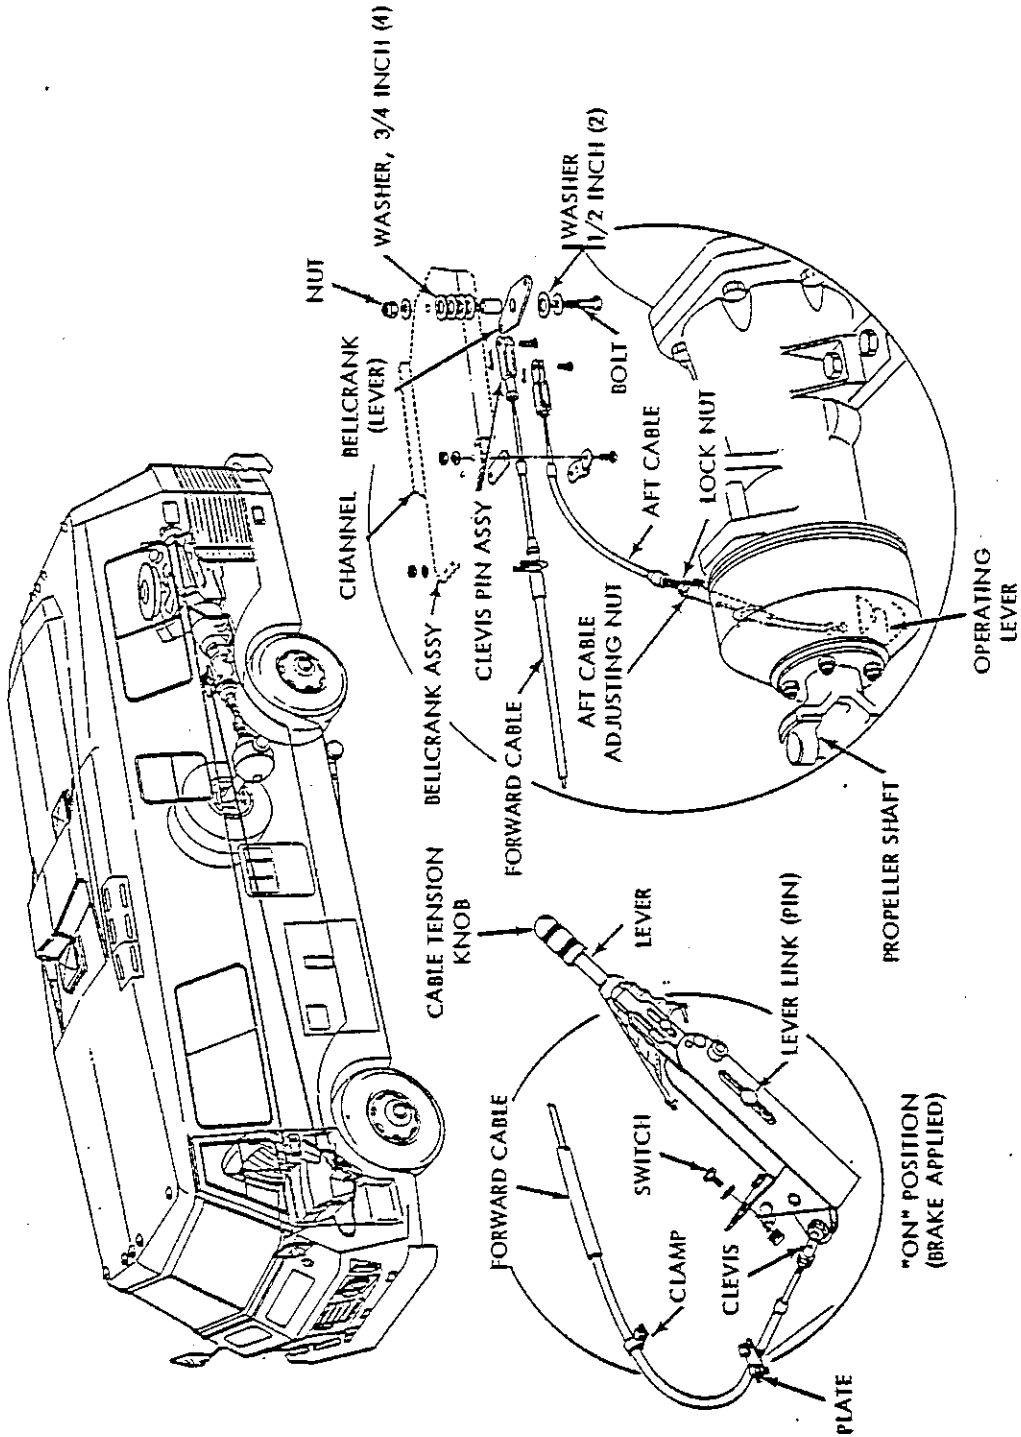

Figure 10-1. Parking Brake
10-1. DESCRIPTION (fig. 10-1)
(1) Check, and adjust, bellcrank end play of lever attaching bolt and nut; refer to step k.
(2) Install bellcrank on chassis bracket using two bolts, washers, and lockwashers.
(3) Attach each cable clevis to bellcrank with pin and cotter pin. Check that clevis locknuts are tight.
(4) On inboard side of bellcrank assembly, secure small aft cable with two bolts, washers, and lockwashers.
(5) On outboard side of bellcrank assembly, secure large forward cable U-bolt with two nuts and lockwashers.
(6) Test parking brake; refer to paragraph 10-5e.
f. Forward Cable Removal (fig. 10-1).
(1) Check that parking brake hand lever is fully forward ("off"), and that lever adjustment knob is turned fully counterclockwise to release all cable tension.
(2) Remove four screws under carpet, then remove lever access plate.
(3) Remove nut, lockwasher, washer, and bolt from lower end of hand-operated brake lever; disconnect forward cable assembly.
(4) Remove two screws and lockwashers; remove forward cable retaining plate.
(5) Remove or loosen each support clamp self-tapping screws on forward curve of cable, and balance of cable. Cut and remove securing harness straps.
(6) Remove cotter pin and pivot pin from bellcrank assembly; disengage cable.
(7) Loosen nuts on U-bolts then pull out cable.
(8) Remove forward cable assembly by pulling rearward from surrounding tube conduit.
g. Forward Cable Installation (fig. 10-1).
(1) Check that parking brake hand-operated lever is fully forward ("off"), and that lever adjustment knob is turned fully counterclockwise to release all cable tension.
(2) Remove cable rod end, then push cable forward through tube conduit under coach into area below hand lever.
(3) Install rod end on cable and secure with locknut.
(4) Connect cable rod end to lever with bolt, washer, lockwasher, and nut.
(5) Install new harness strap(s) as necessary, and install or tighten removed support clamps with one self-tapping screw each.
(6) Push cable through U-bolt on bellcrank assembly; adjust clevis on end to remove as much cable slack as possible, then tighten clevis nut.